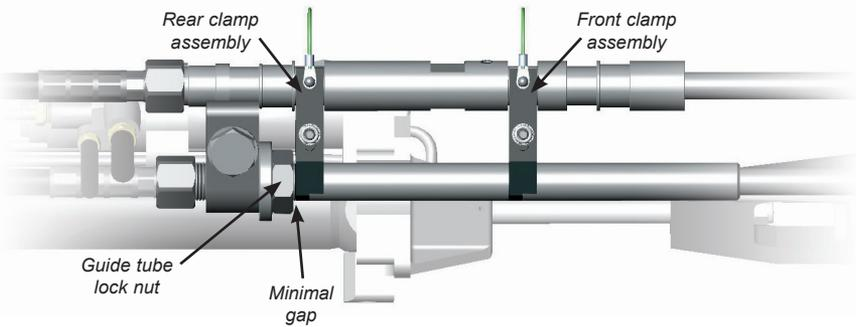

Fig B30 - Positioning the connection kit
- iii) Position the connection kit so that there is a minimal gap between the rear clamp assembly and the primary steering cable guide tube lock nut (Fig B30). Tighten the nuts on both clamp assemblies and torque to 100in-lb (11nm).